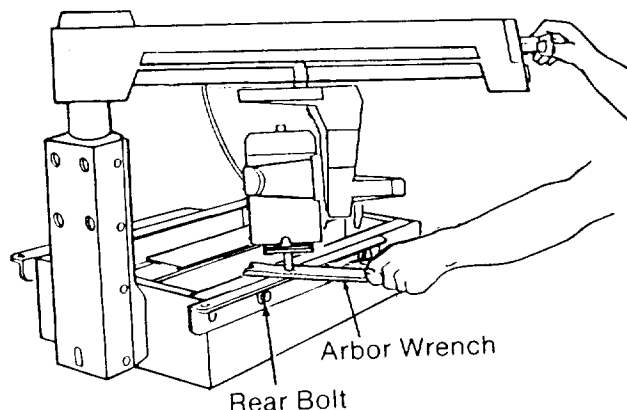

Fig. 39
6. Turn the *motor* until the *arbor shaft* is pointing straight down toward the *saw*. (Figure 39)
9. Unlock the *rip lock* and move the *motor* until the *arbor shaft* is over the left *table support*. (Figure 39)
11. Place the *arbor wrench* over this point and lower the *arm* until the *arbor shaft* is just touching the *wrench*. The *wrench* should slide back and forth with slight contact. (Figure 39)